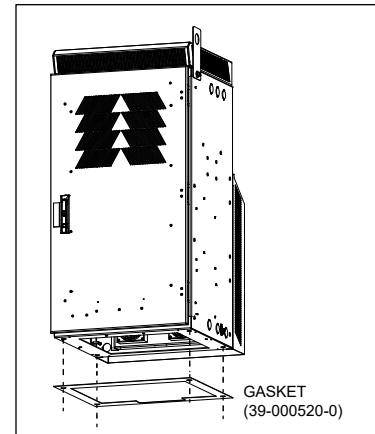

Figure 8 Gasket Installation
3. Install the gasket by positioning it on the pad so that it is underneath the bottom of the CUBE when the cabinet is installed. Line up the gasket so that the cutouts are in proper position around the conduit opening and the bolt holes as shown in Figure 8.